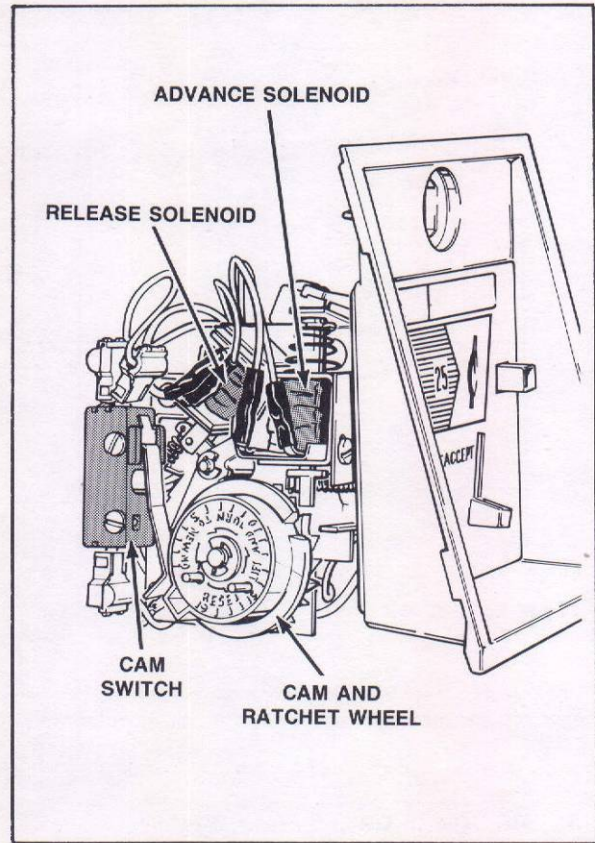

Figure 2
NOTE: Refer to *Figure 2* for accumulator coin drop assembly sequence.
- 1. Install coin switch, *Figure 2*, so switch "clicks" before coin has completely dropped free of actuator arm. When actuator arm returns to natural position, there should be some free travel between the "click" and reseating against bottom of coin chute.